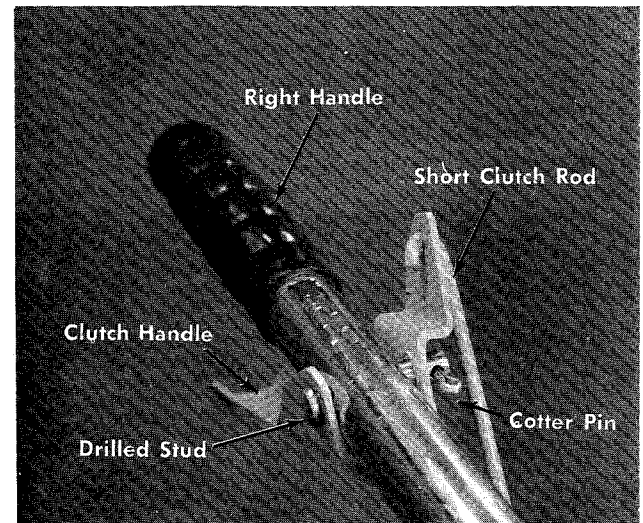

FIGURE 11
17. Hook the clutch handle to the hooked end of the short clutch rod and assemble the clutch handle to the right handle with the drilled stud and cotter pin. See figure 11.
With the clutch handle released as shown in figure 11, the drive pinion should not touch the wheels. When you squeeze the clutch handle the pinions should engage solidly into the tread of the wheels. If the pinions touch the wheels with the clutch handle released, take out the drilled stud and unscrew the short clutch rod from the ferrule. If the pinions do not engage solidly into the wheels, screw the short control rod further into the ferrule.